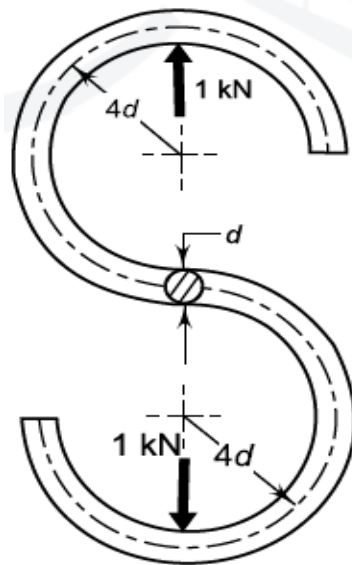

Figure. 5.3
6. A link of S-shape made of a round steel bar is shown in Fig. 5.3 It is made of plain carbon steel 45C8 ( $S_{yt} = 380 \text{ N/mm}^2$ ) and the factor of safety is 4.5. Calculate the dimensions of the link.